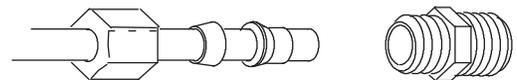

FIG. 7
4. Move the brine tank (water softener only) into position nearby the resin tank, setting on a flat, smooth surface. Do not set on protrusions or uneven surfaces that could cause the tank to puncture or break. If assembly is needed, place the brine valve (or air check) in the brinewell and put both into the brine tank. Insert brine valve top elbow out the hole in the brine tank sidewall. Install the 3/4" x 1/2" reducer (Figure 7).
5. **CONNECT BRINE TUBING:** Install the coupler and tubing connector fittings at the brine elbow (Figure 7), and a tubing connector at the brine valve. Connect a length of 1/2" O.D. tubing between the fittings, routing out of the way, and without sharp bends or kinks.
10. MOUNT THE ELECTRONIC CONTROL BOX on the front of the valve motor box (Figure 7) or in a convenient location nearby the conditioner(s), and within reach of water meter and power cord connections.